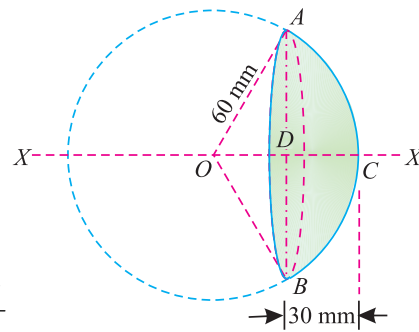

Fig. 6.21.
**Solution.** Let  $O$  be the centre of the given sphere and  $ABC$  is the segment of this sphere as shown in Fig. 6.21